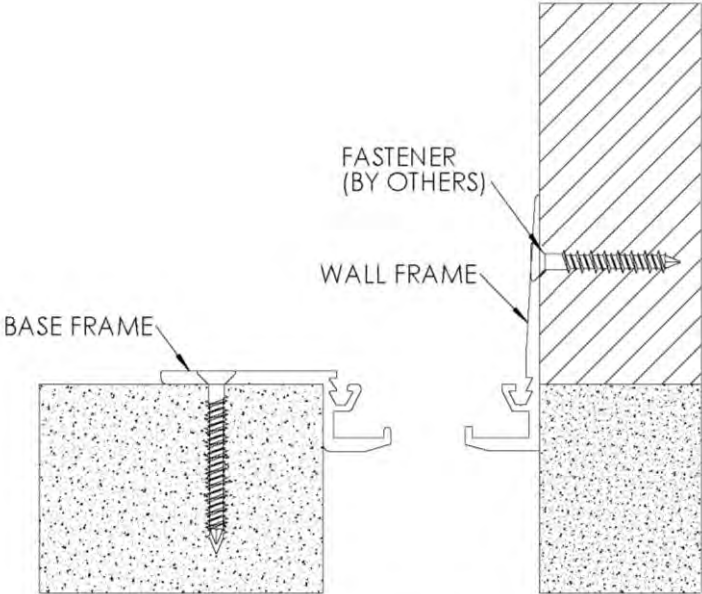

FIGURE 2
- 2. Position the wall frame into position, making sure the top channel is level with the top channel of the base frame. Attach the wall frame to the wall with appropriate fasteners (by others) for the wall type 18" o.c. **See Figure 2**